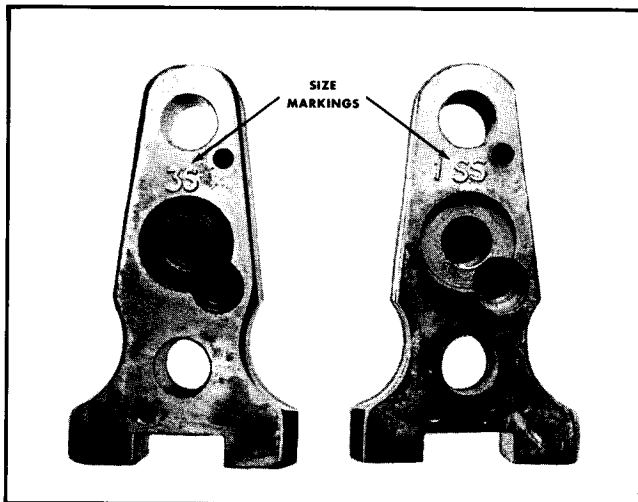

Fig. 6-11. Injector size markings
- a. Injector bodies which are stamped OP, 1P, 2P, or 3P use gaskets with one notch at O.D. Fig. 6-11.